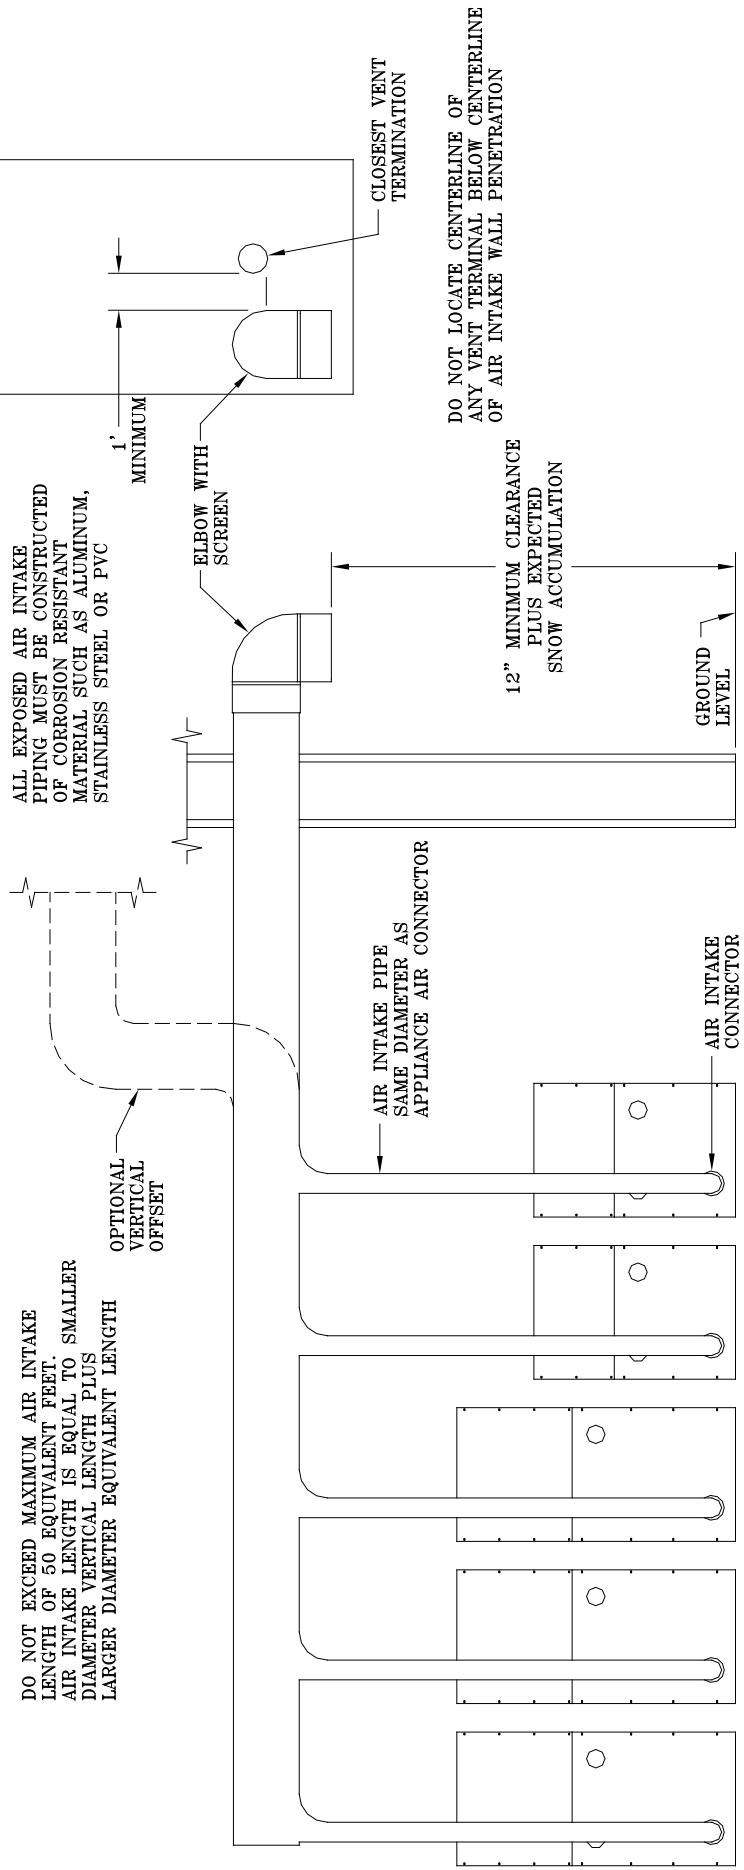

Figure 10: Modular System Horizontal Air Intake Piping
- c. The minimum horizontal distance between vent terminations is one (1) foot. Additional horizontal distance is desirable to avoid frost damage to the building. Vent terminations must be at least twelve (12) inches above the ground plus the expected snow accumulation.
- b. Refer to Figures 10 and 11 for common air intake guidelines for modular boilers.
- f. Vertical air intake pipe must terminate at least two (2) feet above the closest portion of the roof.